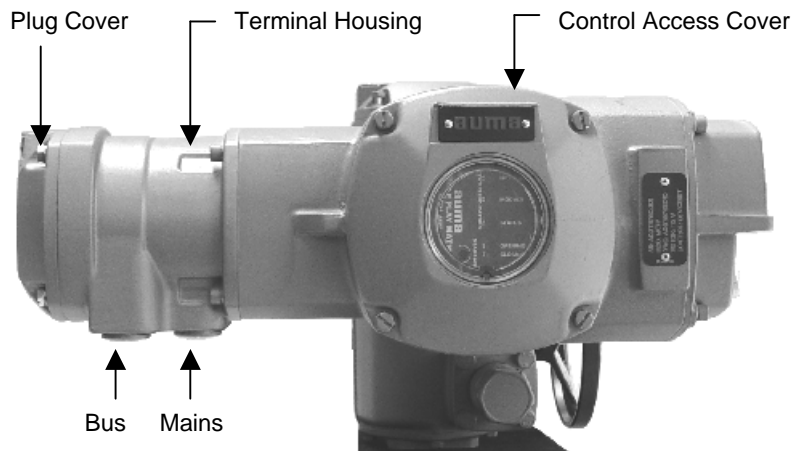

Figure 4-3
- The Modbus connection board is located in the terminal housing (figure 4-3)
- Loosen and remove plug cover (figure 4-3).